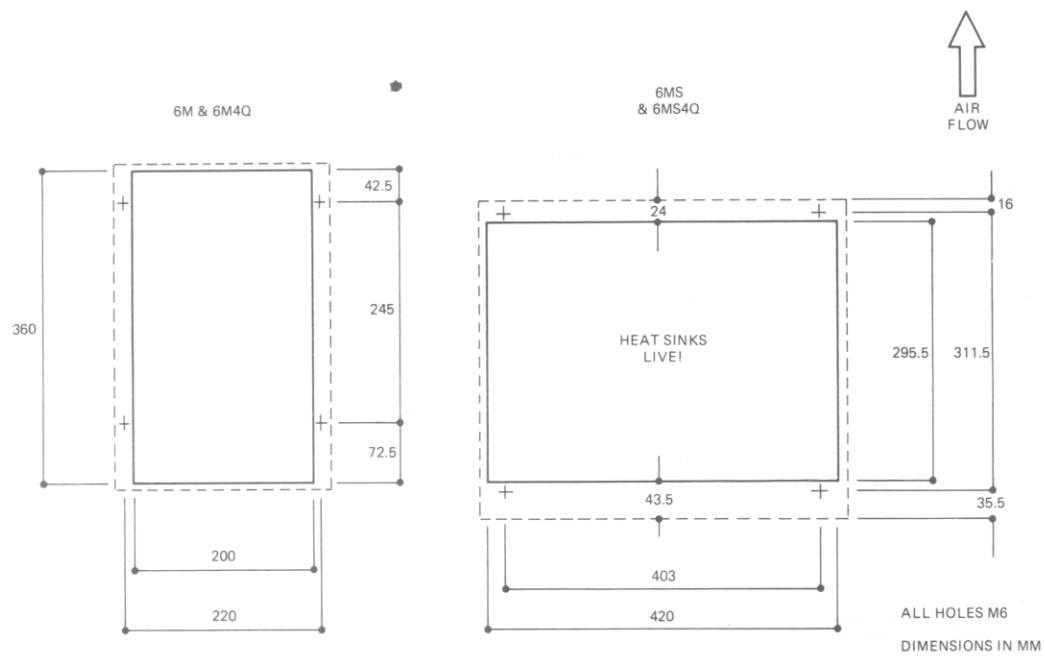

Fig. 6 MENTOR 6m and 6MS cut-outs
- b) Through a panel cutout, as shown in Fig. 6, the heat sink projecting into a separate cooling duct.
- b) Through a panel cutout, as shown in Fig. 6, the heat sink projecting into a separate cooling duct which must be fan-cooled to ensure adequate air flow past the heat sink. (See Rating Table section 3, for air flow requirements).